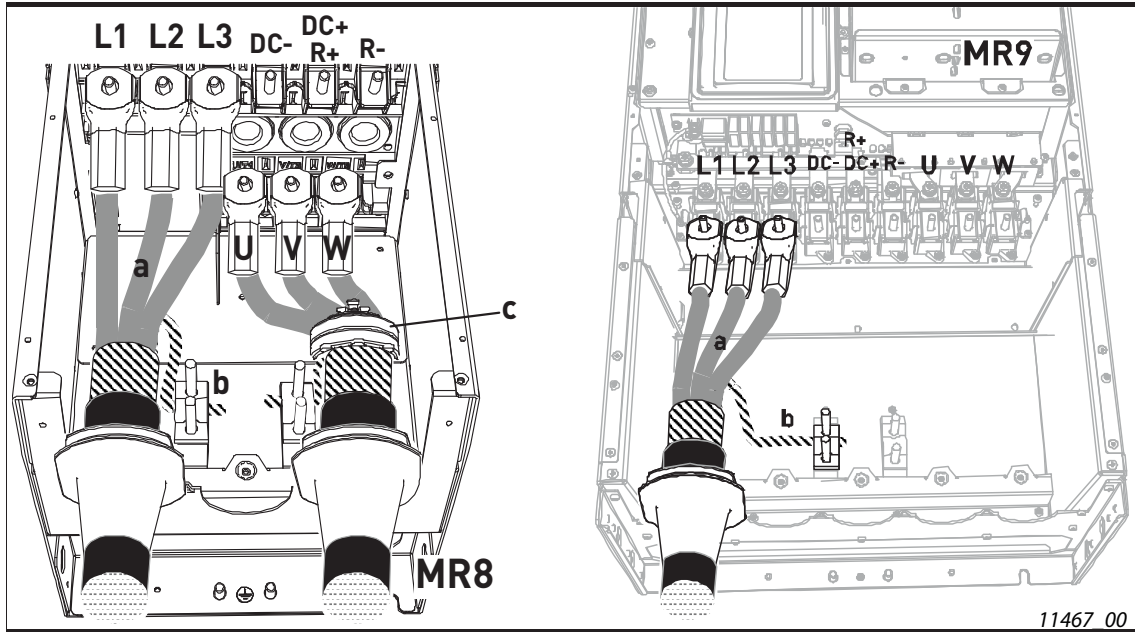

Figure 35.
- Form the rest of the cable shield of all cables into “pigtails” and make a grounding connection as shown in Figure 35 (b) using the clamp from the *Accessories bag*.